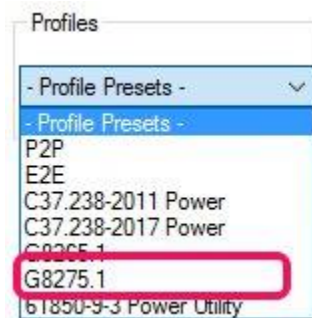

Figure 42(b) - "G8275.1" radio button
*"G8275.1 Alternate BMC": Check this box to use the alternate BMCA defined in ITU-T G.8275.1. When checked, a radio button called "G8275.1" will appear top right of the PTP sub-tab (refer to Figure 42(b)) which contains the configurable attributes defined in the alternate BMCA. Legacy clocks do not have this option.*